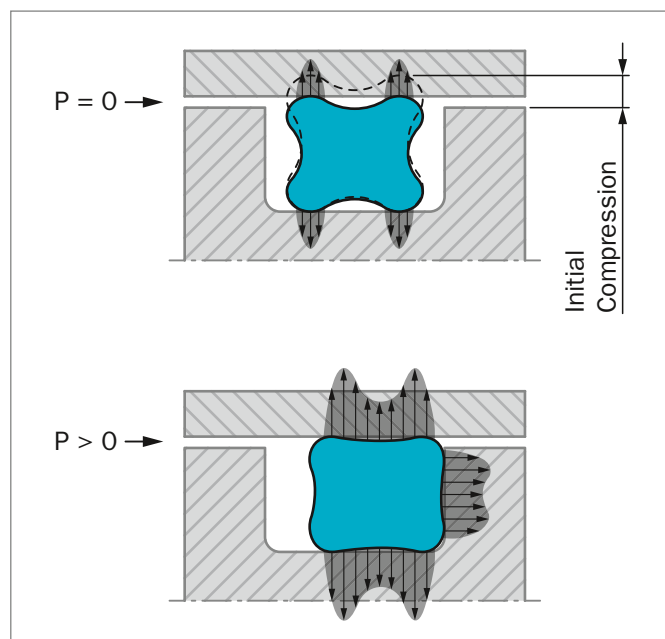

Figure 7: Sealing force without and with system pressure
An important parameter regarding the sealing capability is the compression set (CS) of the O-Ring material. Elastomers when under compression also show permanent plastic deformation (Figure 7).